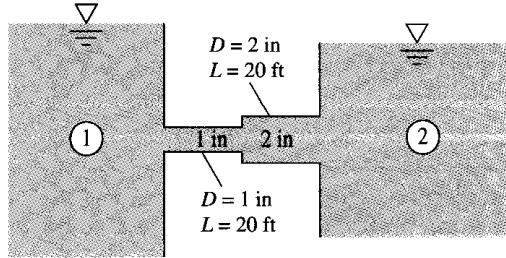

Fig. P6.103
**6.103** The reservoirs in Fig. P6.103 are connected by cast-iron pipes joined abruptly, with sharp-edged entrance and exit. Including minor losses, estimate the flow of water at 20°C if the surface of reservoir 1 is 45 ft higher than that of reservoir 2.